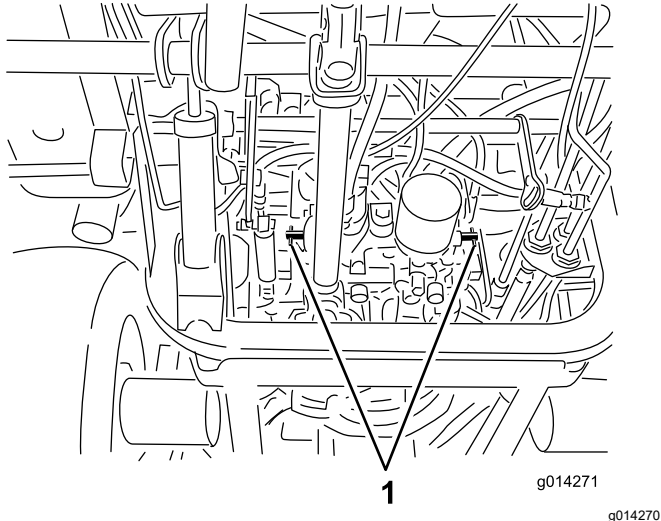

Figure 63
3. Rotate each bypass valve counterclockwise 1 turn (Figure 63).
1. Rotate each bypass valve clockwise 1 turn and hand tighten them (Figure 63).
2. Torque the valves approximately 8 N·m (71 in-lb) as shown in Figure 63.